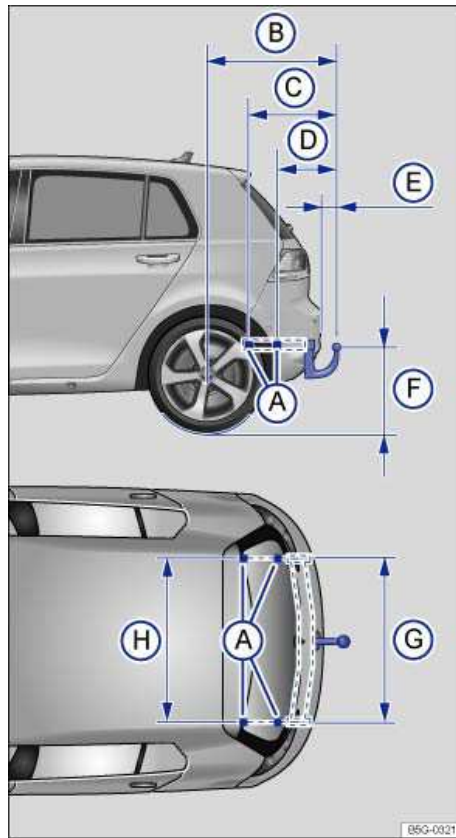

Fig. 99 Dimensions and attachment points for retrofitting a trailer hitch.
When retrofitting a trailer hitch, the specified distance dimensions must be strictly adhered to. Under no circumstances may the distance from the center of the hitch ball to the surface of the road ⇒ fig. 99 (F) be less than the specified minimum. This minimum height must be present even when the vehicle is fully loaded and subject to the maximum tongue weight.